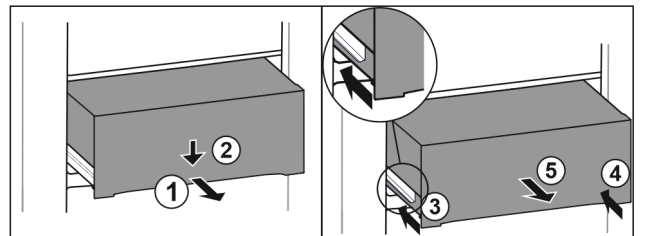

Fig. 84
- ▶ Pull out drawer half-way. Fig. 84 (1)
- ▶ Push the drawer down at the front. Fig. 84 (2)
- ▶ Push the left rail in by about 2 cm. Fig. 84 (3)
- ▶ Push the right rail in by about 2 cm. Fig. 84 (4)
- ▶ Remove drawer to the front. Fig. 84 (5)